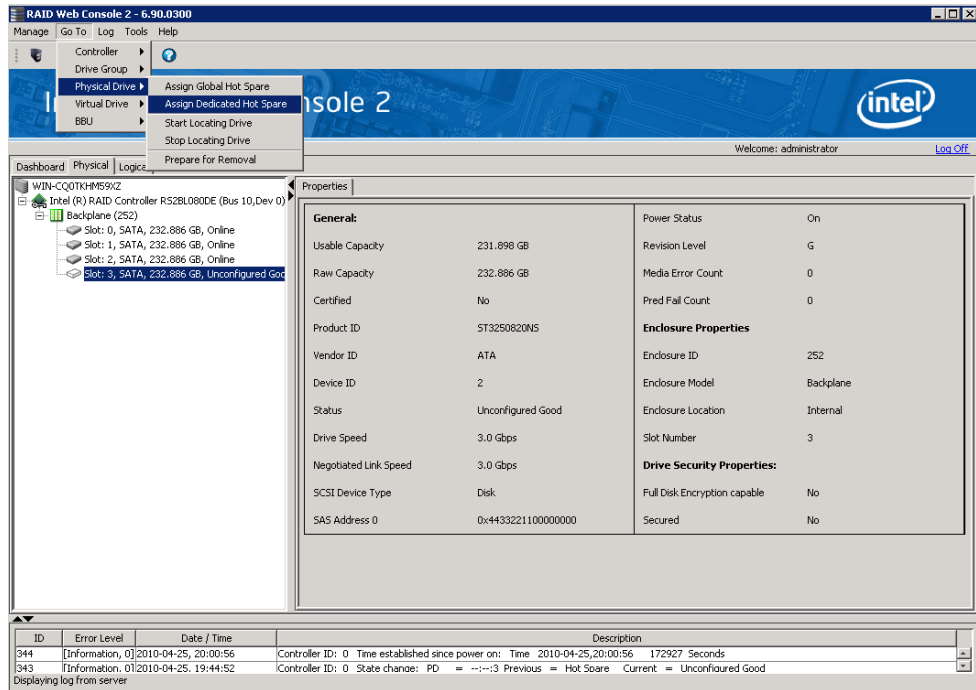

Figure 65. Assign Dedicated Hotspare
2. In the Menu, click the **Go To -> Physical Drive** tab and select **Assign Dedicated Hotspare**, as shown in Figure 65.